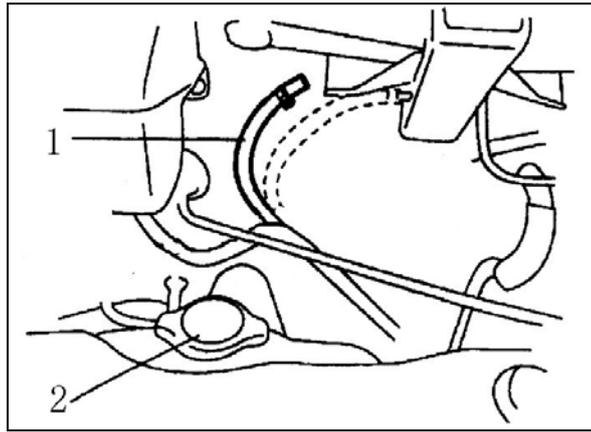
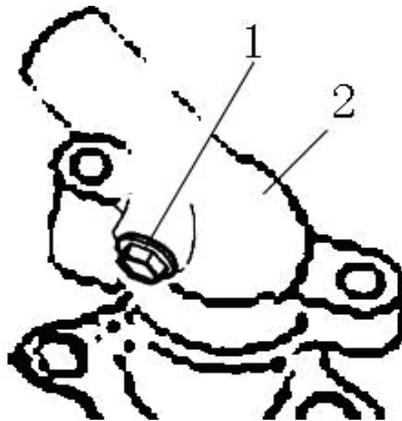

FIG.7-4
FIG.7-5
4)Remove the heater air bleed hose, and loosen thermostat air bleed valve(FIG.7-4, FIG.7-5)